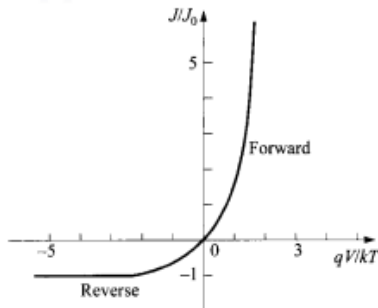

Fig 1: Shockley equation for the I/V characteristic of a diode
For this lab, you can omit BLOCK_5 (the resistor divider). You will get the maximum swing of VOUT allowed by the FG. This is required for performing this experiment to sweep V over as large a range as possible and obtain the I/V characteristic shown in Fig 1
A.2.3) Do you observe any deviation from the expected Shockley equation I/V characteristic (Fig 1) in your simulated circuit measurement of Q2.2? If so, explain the reasons for the deviation.
shown in Fig 1 ideal Shockley diode equation?